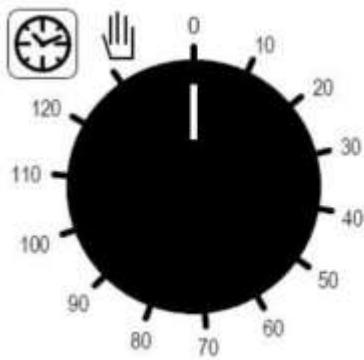

Fig.3
**Programming cooking time** - To run the oven, turn the programmer knob (Fig. 3) in line with symbol  (continuous operation) or in line with the selected cooking time (up to 120 minutes). In the second case, end of cooking is signalled by the oven switching OFF automatically.